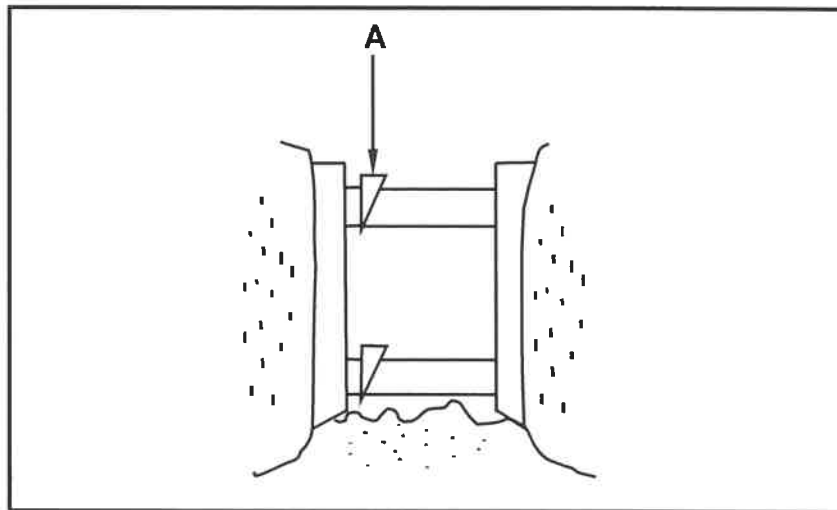

FIGURE 3.2
- 3.2 FIGURE 3.2 below shows shoring used in a wet area. Study the drawing and answer the questions that follow.